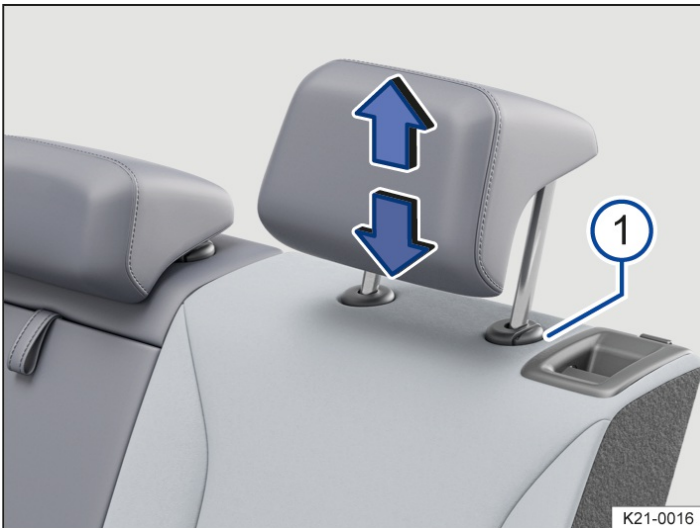

Fig. 2 Adjusting a rear head restraint(illustration).
1. While pressing the button → Fig. 2 ¹ if necessary, push the head restraint up or down in the direction of the arrows.